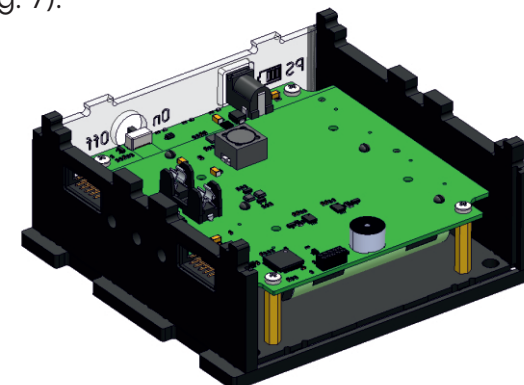

Fig. 7: Mounting the second side wall
6) Fix the second sidewall on the base plate. To do that, align side wall protrusions with holes in the base plate and latch them (Fig. 7):